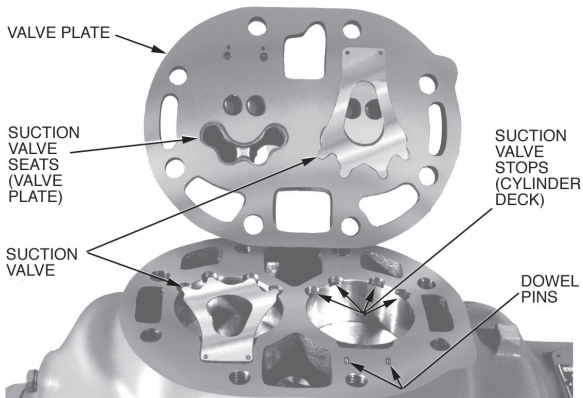
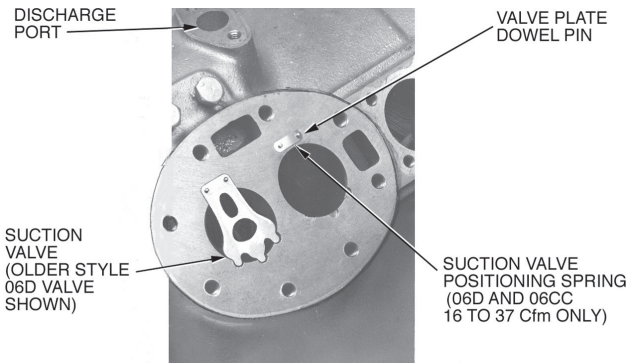

Fig. 5 — Valve Plate Removed (06E Refrigeration Valve Plate Shown)
Fig. 6 — Suction Valve and Positioning Springs in Place (06D Shown)
4. Pry up along sides of valve plate to remove valve plate from crankcase. This provides access to suction reed valves (see Fig. 5). Remove suction valves from dowel pins. On 06D and 06CC (16 to 37 cfm) compressors, also remove the suction valve positioning springs (see Fig. 6).
1. If reassembling existing components, do not interchange valves or turn them over. They must be reassembled in their original position. Install the suction valve positioning springs (06CC size 16 to 37 cfm and 06D compressors only) on dowel pins. Assemble positioning springs with spring ends bearing against cylinder deck (Fig. 6), spring bow upward.